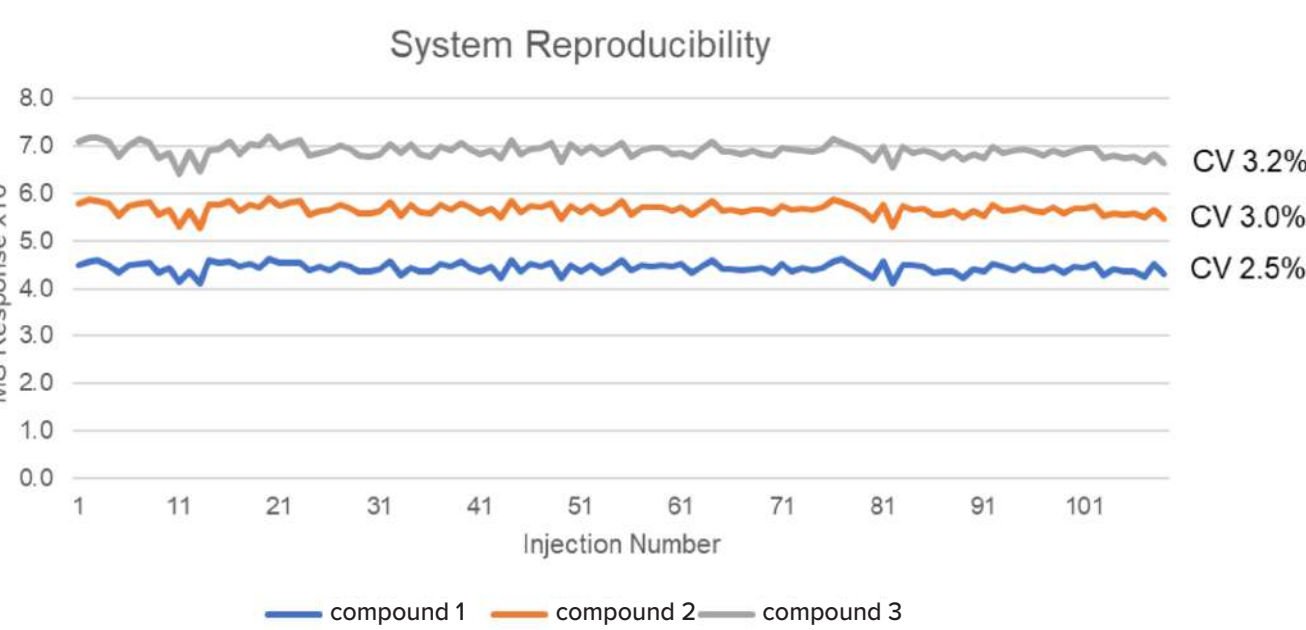

Figure 1: MS response obtained for >100 injections of compound 1, compound 2 and compound 3.
- Peak areas plotted in Figure 1 with CV of <4%.